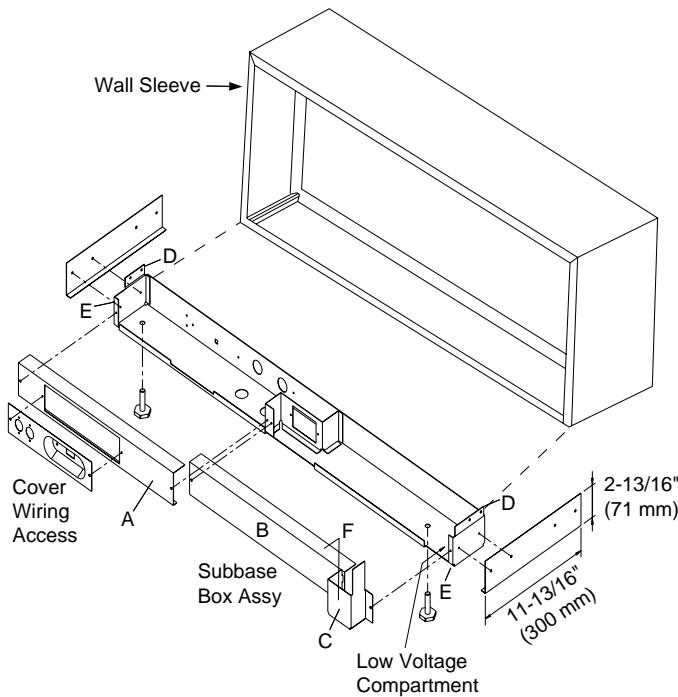

Figure 60 - Dimensions
3. Align the back edge of the flange on cover A (Figure 54, next page) to front of the wall sleeve flange. (Figure 60, next page)